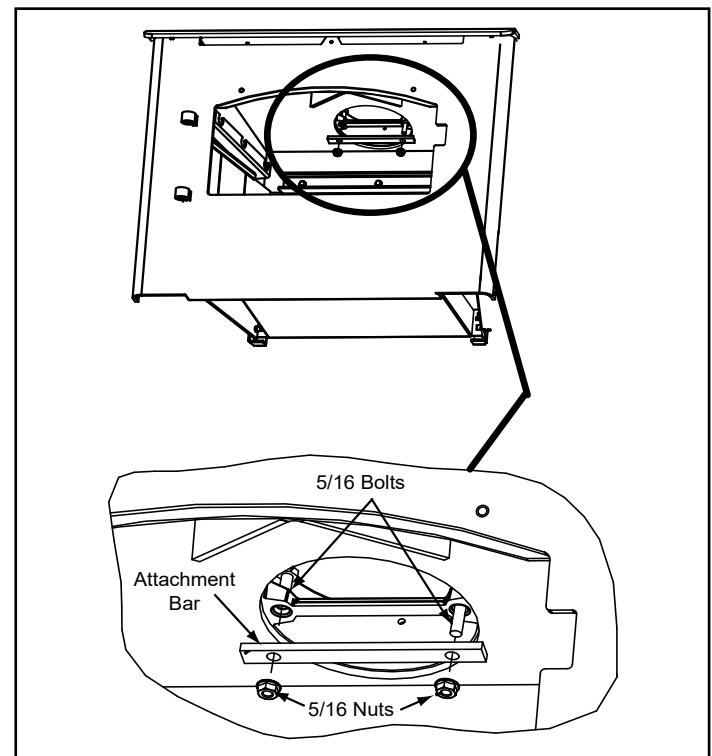

Figure 5.6
1. Once you have the appliance in place and secured, reach up through the flue opening and grab the attachment bar and pull down inside flue opening (**Figure 5.6**).